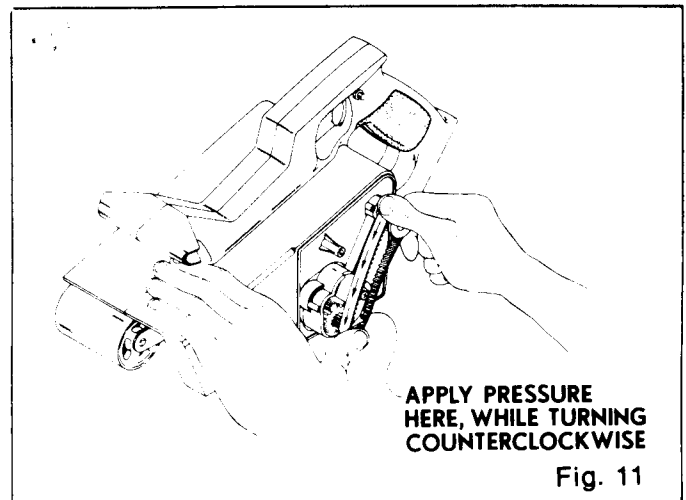

Fig. 11
4. Install new belt over large pulley first, making sure teeth on belt mesh with teeth on pulley. See Figure 11.
5. Holding the belt as shown in Figure 11, press the belt onto the small pulley. **NOTE: TO SIMPLIFY THE PROCESS, TURN THE LARGE PULLEY IN A COUNTERCLOCKWISE DIRECTION AS YOU PRESS THE BELT ONTO THE SMALL PULLEY.**